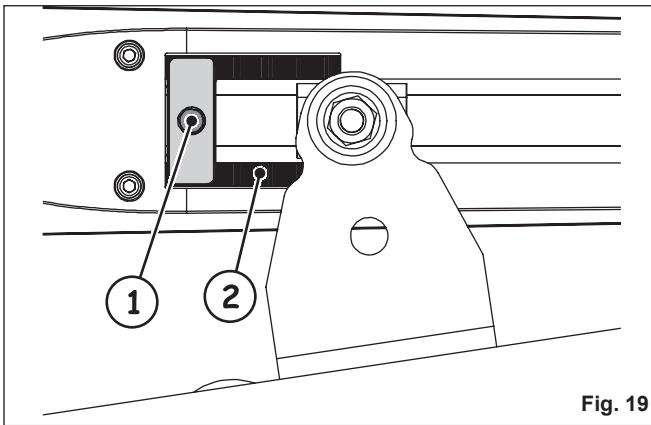

Fig. 19
- Loosen the securing screw, Figure 19 Ref. 1. The screw does not need to be completely removed.
⚠ *The mechanical stop is coupled to a toothed sector, Figure 19 Ref. 2.*